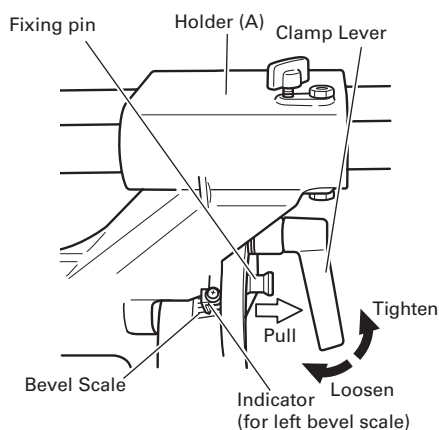

Fig. 31
- (1) Loosen the clamp lever and bevel the saw blade to the left or to the right. When tilting the motor head to the right pull the fixing pin towards the rear. The clamp lever adopts a latchet system. When contacting the work bench and the main body, pull the clamp lever in the direction of the arrow mark as illustrated in Fig. 31, and change the direction of the clamp lever.
- (2) Adjust the bevel angle to the desired setting while watching the bevel angle scale and indicator, then secure the clamp lever.
- (3) Follow the procedures indicated in paragraphs 4,5 and 6 above. For maximum dimensions for bevel cutting, refer to "SPECIFICATIONS" table on page 9.